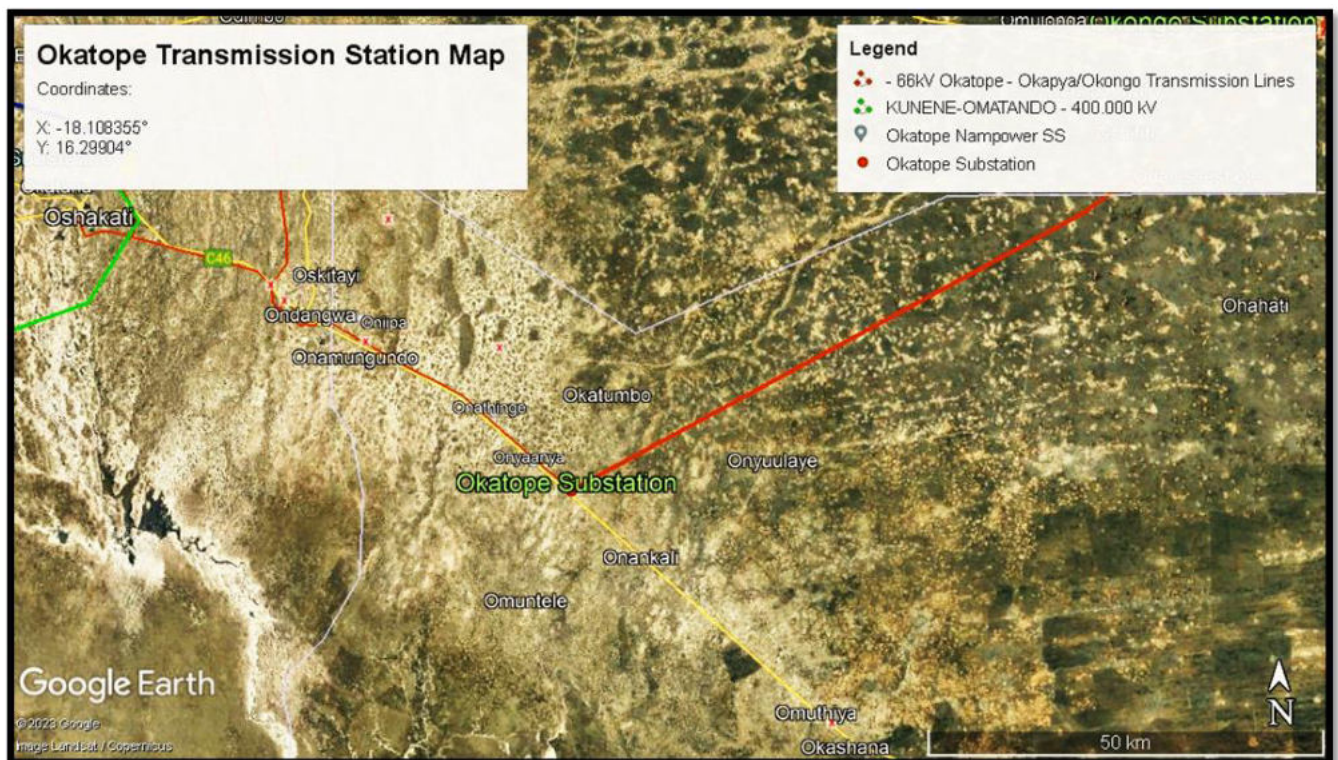

Figure 1: Locality map showing Kokerboomsbustation
In addition, there are two Solar Photovoltaic (PV) plants connecting to the Kokerboom Substation, the 10MW Greenam PV Plant and 5MW MSO Plant. The substation covers a footprint of about 154 319m². Figure 1 below shows the locality map for the Kokerboom Substation.